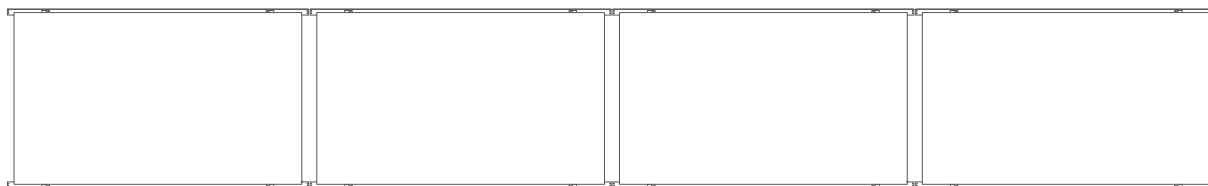
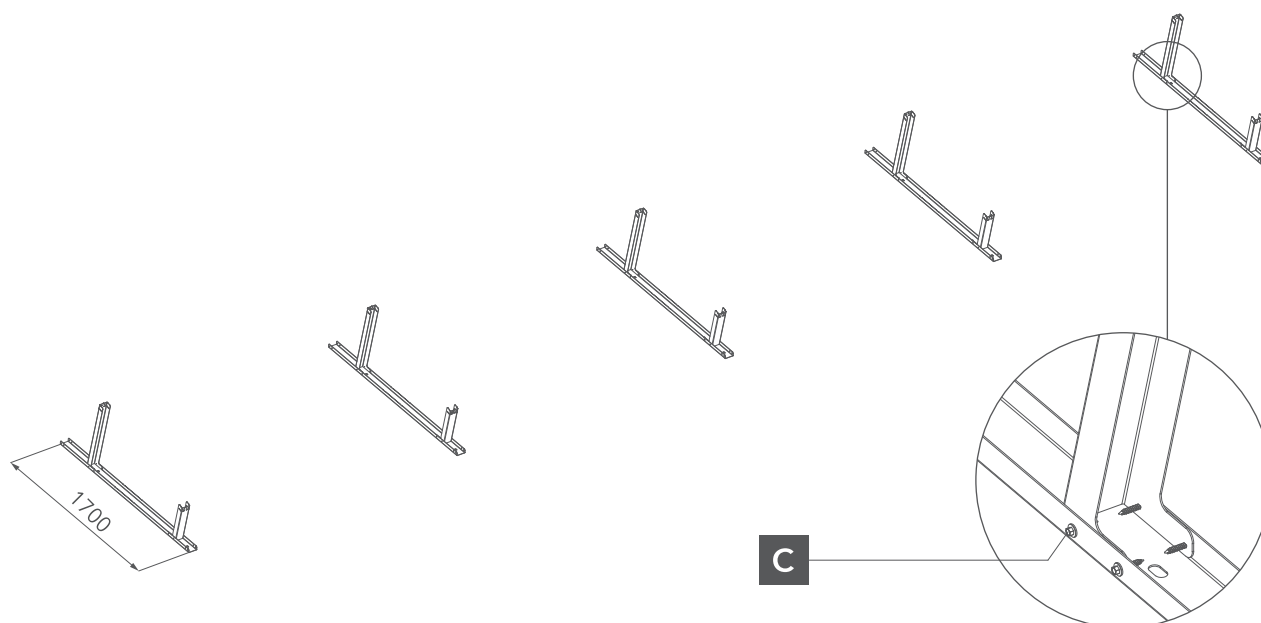

Fig. 1 Modular structure plan
Fig. 2 Arrangement of the mounting triangles
- 1 Before mounting, it is necessary to determine the layout plan for the modules (Fig. 1) and the mounting triangles (Fig. 2). The way of fixing the mounting structure on the roof field depends on the type of roof and is chosen individually.